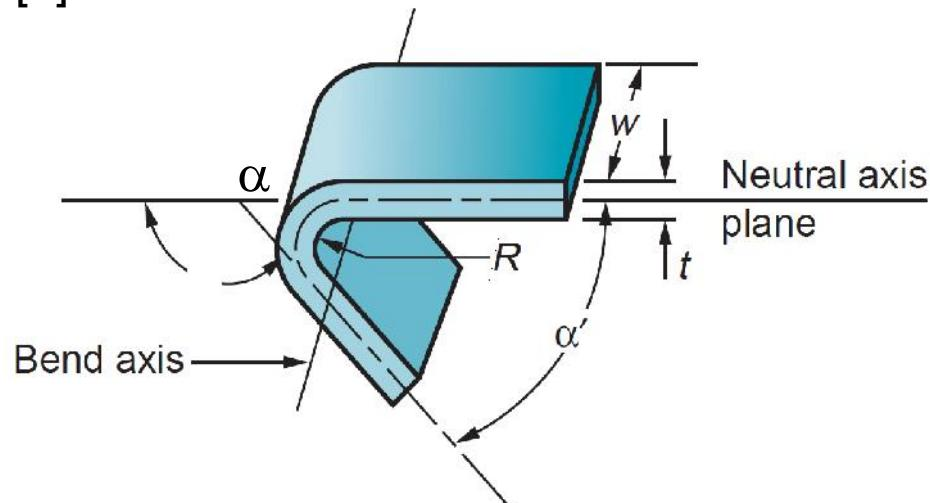

Figure 20.12 (a) Bending of sheet metal.
where F = bending force, N; (TS) = tensile strength of the sheet metal, MPa; w = width of part in the direction of the bend axis, mm; t = stock thickness, mm; and D = die opening dimension as defined in Figure 20.12, mm.